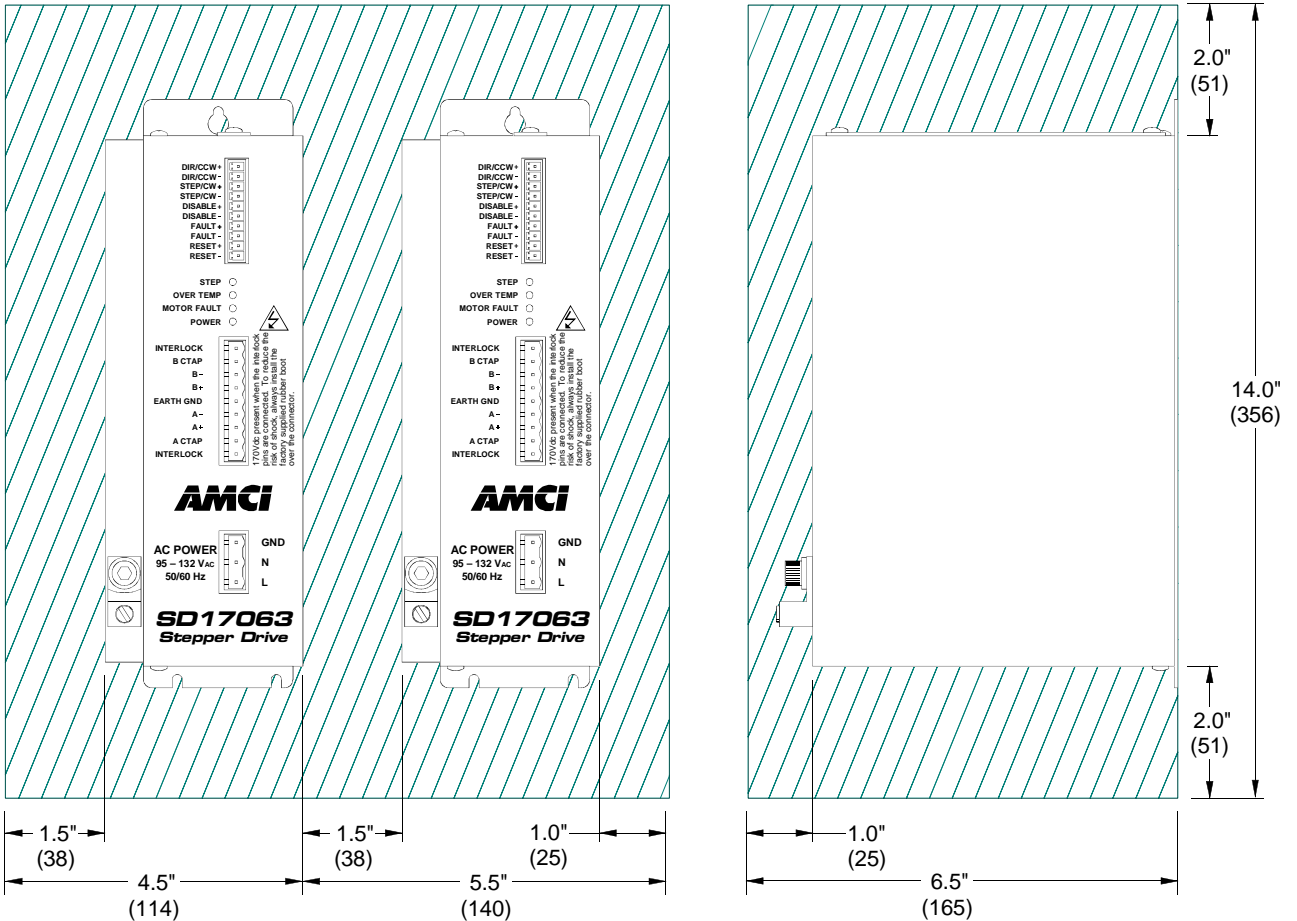

Figure 5.2 Mounting Clearance Dimensions
In order to assure proper convectional airflow around the SD17063, you must follow the clearance guidelines given in figure 5.2. If you don't have this amount of area around the drive, you may need to install a small fan below it to force air up through the drive.
- In order to dissipate heat correctly, the SD17063 must be mounted with the heat sink fins vertical, as shown in figure 5.2. A large amount of heat can also be dissipated through the back panel if the drive is securely mounted to a metal panel.
- If mounting the drive in an enclosure, you must make provisions for proper air flow. The clearance dimensions given in figure 5.2 should be sufficient for most applications, but a small fan mounted below the drive to force air through it may be needed if the ambient temperature is high or the enclosure is not ventilated.